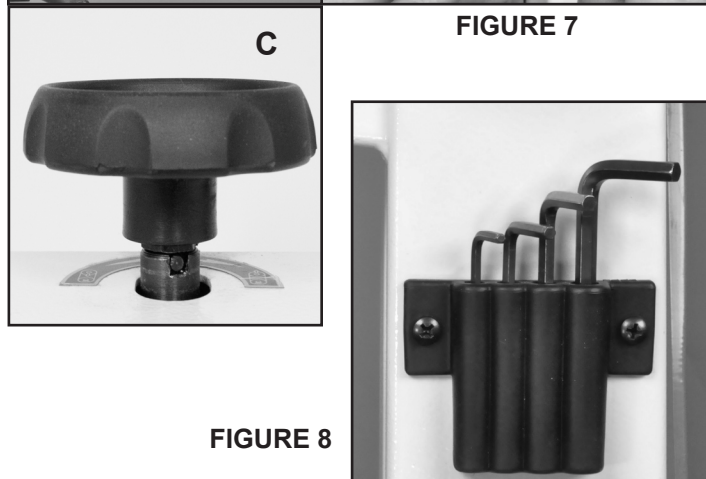

FIGURE 8
1. Assemble the Tool Holder (#8A) to the column rear with two M5x10 Phillips Screws (#9A). Fig. 8. Handy storage for the Hex Wrenches (3, 4, 5, 6mm).